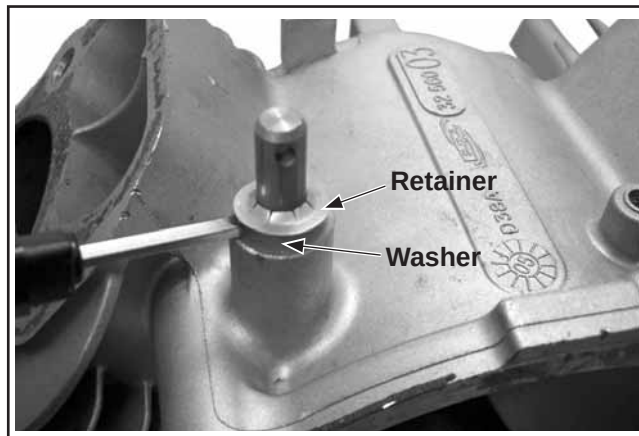

Figure 8-47. Removing Governor Cross Shaft Retainer.
1. Remove the retainer and washer from the governor cross shaft. See Figure 8-47.